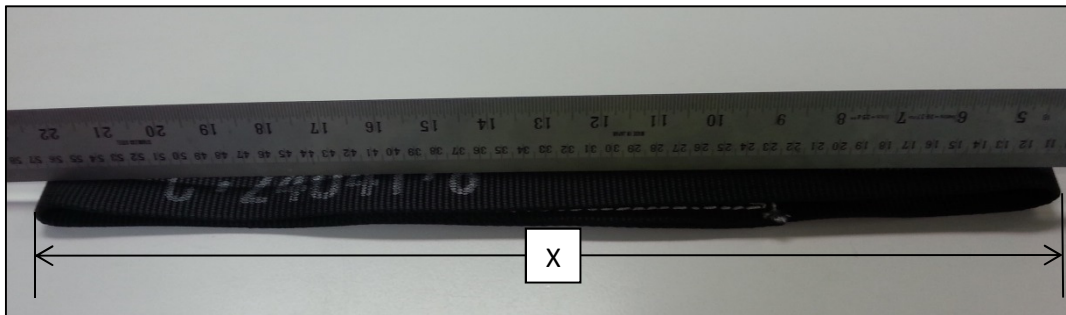

Figure 2
5. To measure shock strap length, the strap must be pressed onto a flat surface with a steel ruler or similar, then measured from end to end, refer to dimension X in Figure 2.